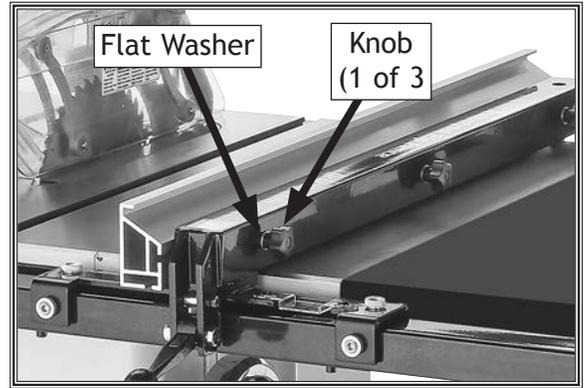

Figure 78. Location of knobs and flat washers securing fence to fence tube.
2. Unthread (3) knobs and (3) flat washers securing fence face to fence tube shown in **Figure 78**, then remove fence.